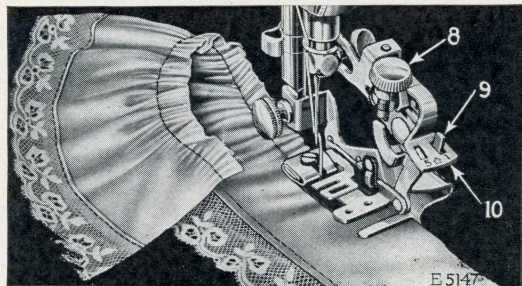

FIG. 34
Raise the adjusting lever (10, Fig. 34) and move it to the left so that the projection (9, Fig. 34) will
To make a finer gather, shorten the stroke of the ruffling blade by turning the adjusting screw (8, Fig. 34) up, also shorten the stitch. To make a fuller gather, lengthen the stroke of the ruffling blade by turning the adjusting screw (8) down, also lengthen the stitch. By varying these adjustments many pleasing varieties of work can be accomplished.
Raise the needle bar to its highest point and remove the presser foot. Attach the ruffler foot to the presser bar by means of the thumb screw, at the same time placing the fork-arm astride the needle clamp as shown in Fig. 34.